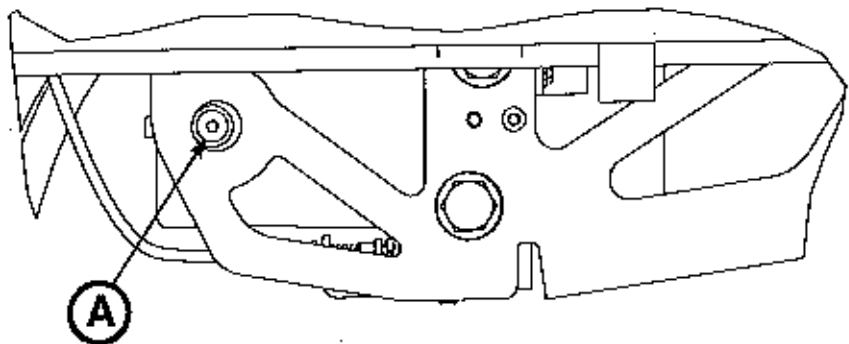

Figure 49
3. Remove the port plug (A) using a 3/16" hex wrench (Figure 49).